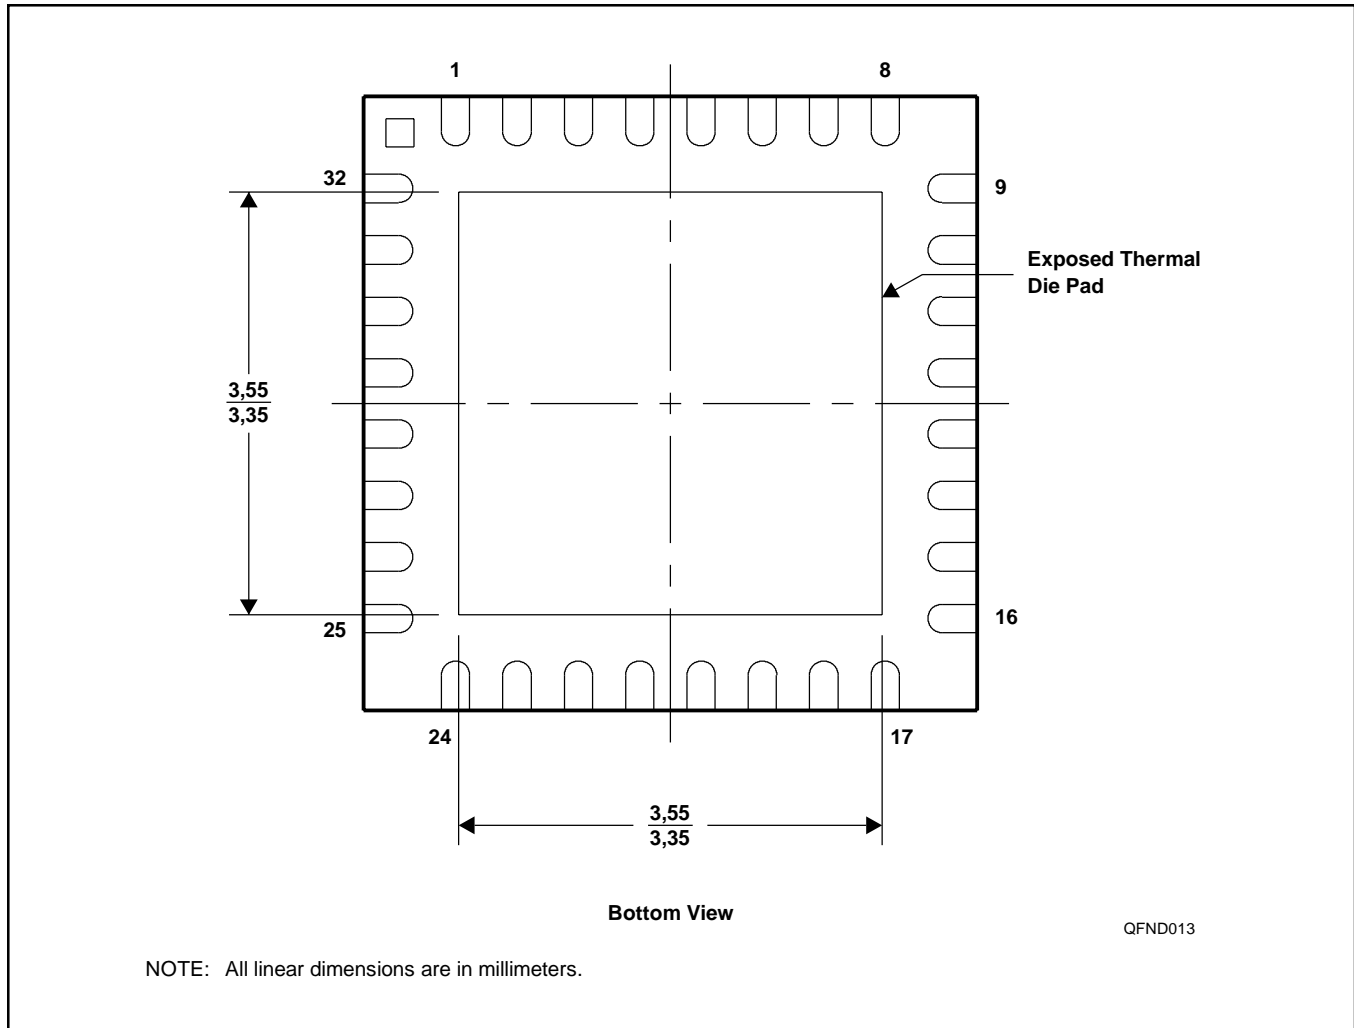

FIGURE 31. RHB Package Exposed Thermal Die Pad Dimensions.
sink. In addition, through the use of thermal vias, the thermal die pad can be attached directly to a ground plane or special heat sink structure designed into the PCB. This design optimizes the heat transfer from the integrated circuit (IC). See Figure 31 for RHB package exposed thermal die pad dimensions.